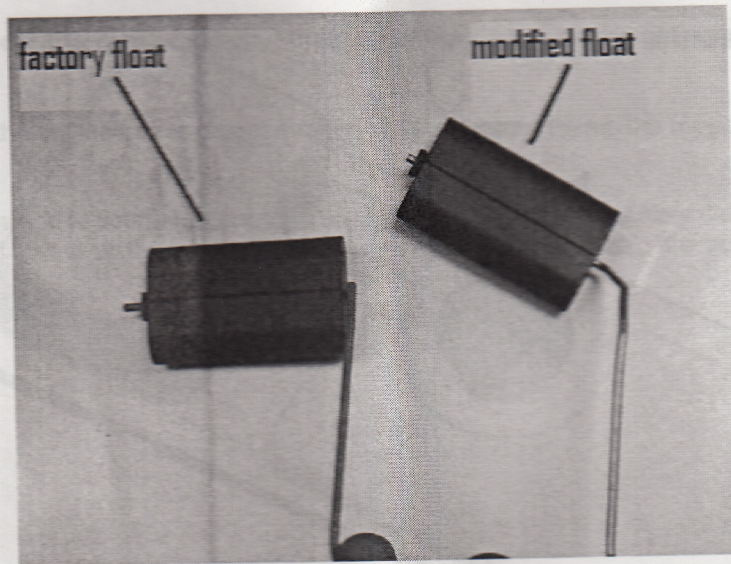

FIGURE 1-1
9. Before placing the fuel pump assembly in the fuel tank, bend the float arm approx. 30-degrees. This allows the float to clear the internal baffling. Use Figure 1-1 for reference.